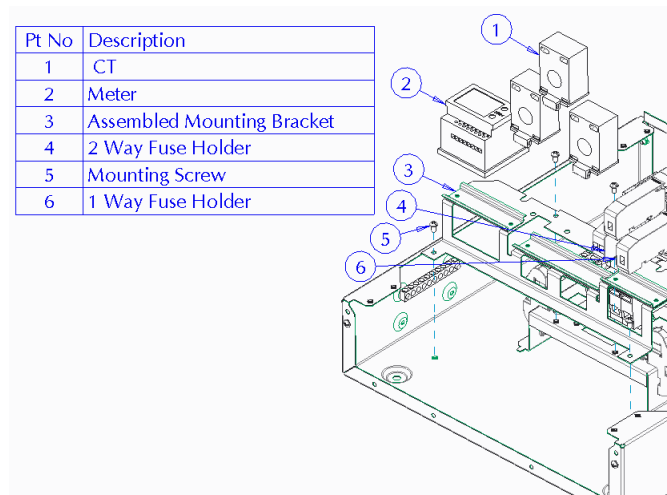

Fig. 1
- Install the meter kit by referring to Fig. 1.